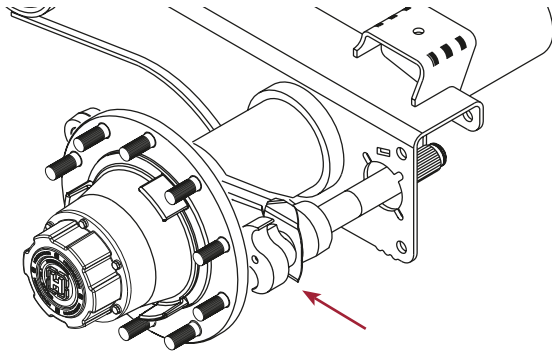

Figure 68: INTRAAX S-Cam & Washer Removal
1. Remove the S-cam and the Underhead cam washer from the outboard side of the spider (Figure 68).